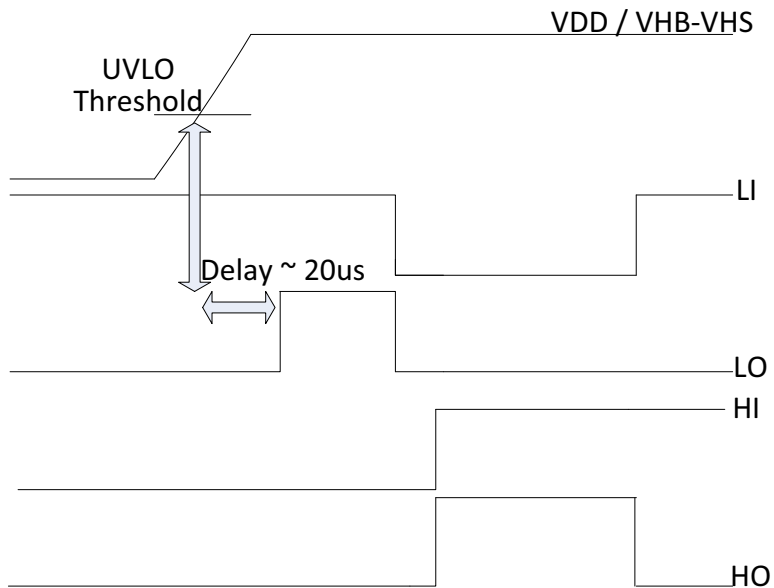

Figure 4. Output Logic at UVLO Crossing
At power-up, the HS Pin is at ground, the bootstrap capacitor will charge up to VDD through the internal diode. The designer must factor in at least 3 time constants (RC) plus the internal UVLO delays (20  $\mu\text{s}$  typical) before the output can react to a logic input (Refer to Figure 4). If for any reason the voltage across the bootstrap capacitor drops below UVLO, it is required to charge the capacitor back up to VDD while accounting for 3 time constants and the 20  $\mu\text{s}$  UVLO delay before the High-Side channel can react to an HI input.
At power up, when the supply voltage ramps up to set VDD and crosses the UVLO thresholds, **users must take into account a 20  $\mu$ s delay** before the output drivers can react to a logic input. The 20  $\mu$ s delay applies to both High-side and Low-side drivers. Figure 4 only shows the delay for the low-side channel.
When VDD & VHB cross their respective UVLO thresholds if HI and LI were already set the NCP81078 will keep HO pulled Low until it detects a rising edge on HI, however LO will follow LI allowing the Low-Side FET to turn on. (Refer to Figure 4)